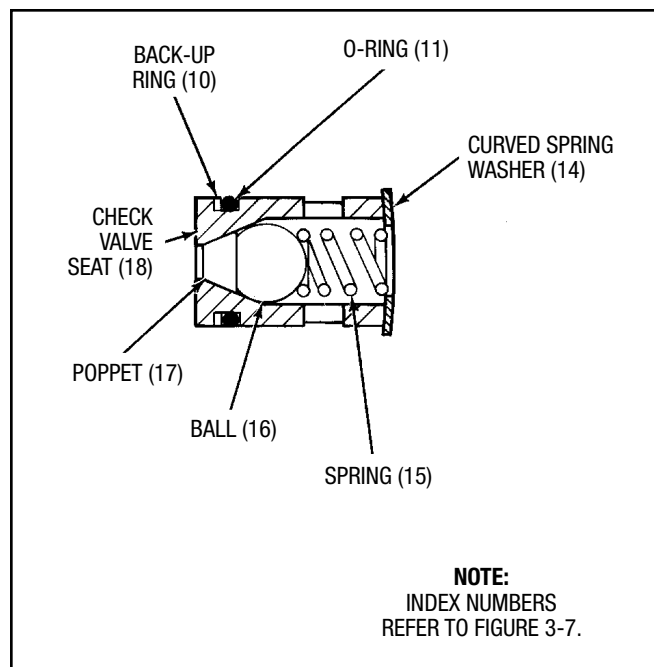

Figure 3-6. Installed Position of Check Valve Components
- h. Install o-ring (11) and backup ring (10) on check valve seat (18).
- i. Insert poppet (17), ball (16) and spring (15) into check valve seat (18) as shown in Figure 3-6.
- j. Slide check valve seat (18) with assembled parts into sleeve of piston and sleeve assembly (9).
- k. Position curved spring washer (14) over end of check valve seat (18) as shown in Figure 3-6.